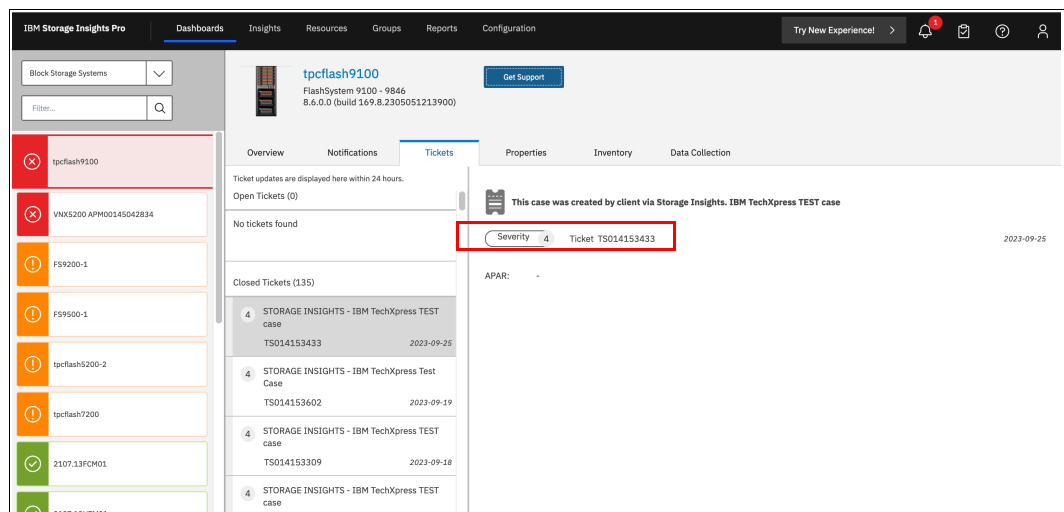

Figure 5-18 View tickets
1. From the System Overview window, select **Tickets**, as shown in Figure 5-18.